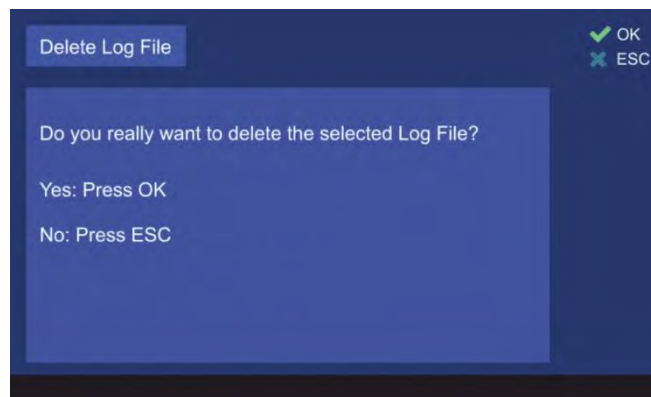

Figure 135. Confirming the deleting of the log file
- Pressing the hotkey “Delete Log” will open the following window (s. Figure 135). Pressing “OK” will delete the currently marked file. Pressing “ESC” will close the dialog without deleting the log file.